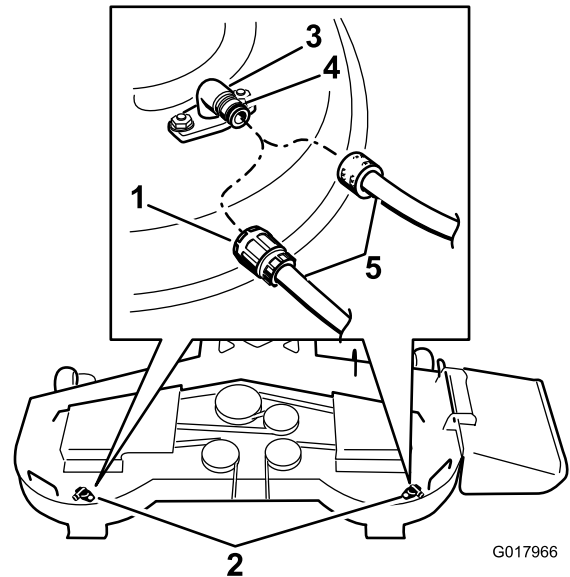

Figure 68
- Attach the hose coupling to the end of the mower washout fitting, and turn the water on high (Figure 68).